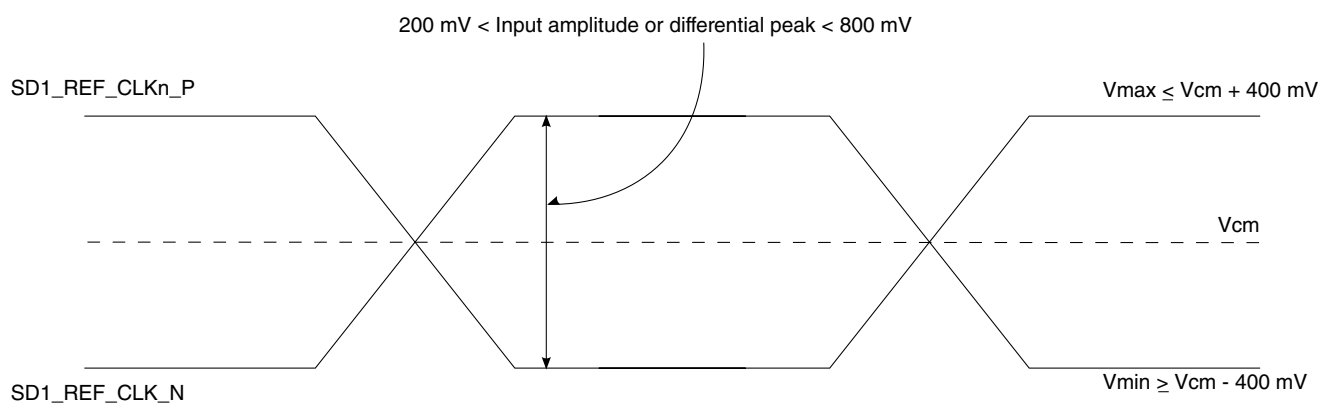

Figure 35. Differential reference clock input DC requirements (external AC-coupled)
- For an external AC-coupled connection, there is no common mode voltage requirement for the clock driver. Because the external AC-coupling capacitor blocks the DC level, the clock driver and the SerDes reference clock receiver operate in different common mode voltages. The SerDes reference clock receiver in this connection scheme has its common mode voltage set to SGNDn. Each signal wire of the differential inputs is allowed to swing below and above the common mode voltage (SGNDn). Figure 35 shows the SerDes reference clock input requirement for AC-coupled connection scheme.